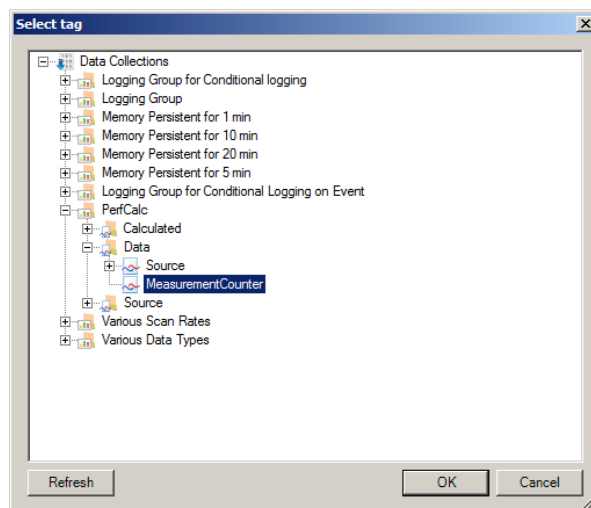

Figure 4 Select the Measurement Counter
3. Click on the button behind the Data Point field to open the tag browser as shown in Figure 4.